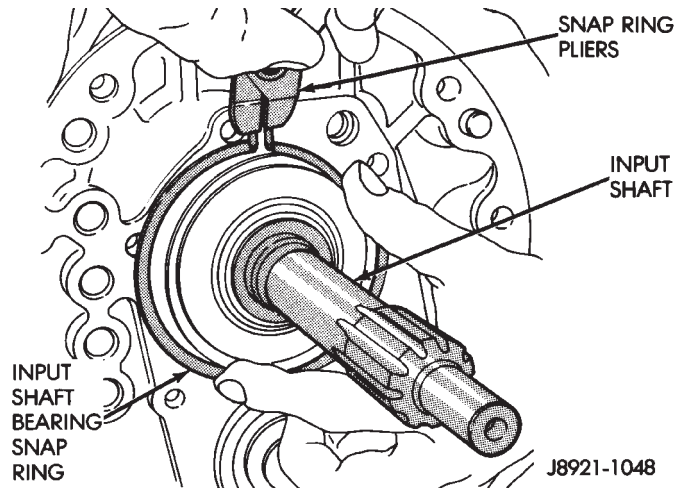

Fig. 30 Remove Input Shaft Bearing Snap-ring
(21) Remove input shaft bearing snap-ring (Fig. 30).
(22) Remove countershaft front bearing snap-ring.